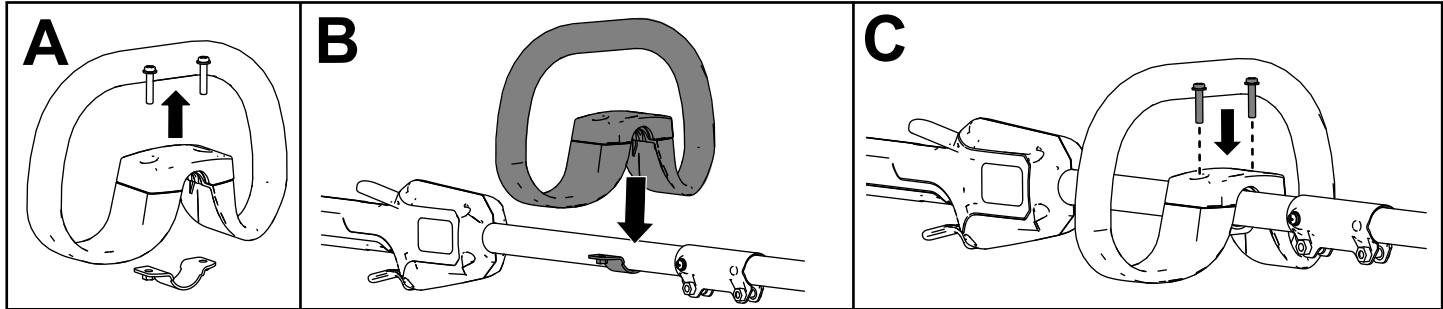

Figure 2
1. Separate the auxiliary handle from the handle plate by removing the 2 screws (A of Figure 2).
2. Line up the auxiliary handle with auxiliary handle plate on the trimmer handle (B of Figure 2).
3. Secure the auxiliary handle to the handle plate with the 2 previously removed screws (C of Figure 2).
3. Secure the guard onto the base of the trimmer with the 2 socket head screws, 2 washers, and 2 spacers previously removed (C of Figure 2).